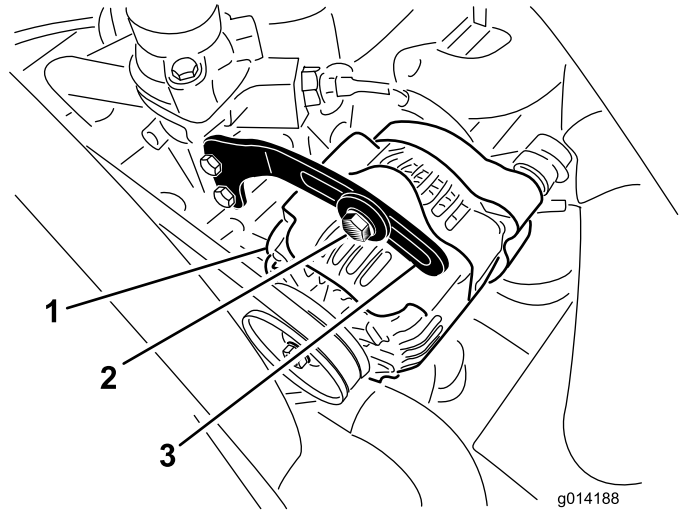

Figure 48
2. Check the tension of the alternator belt by depressing it (Figure 48) midway between the alternator and the crankshaft pulleys with 10 kg (22 lb) of force.
3. Loosen the bolt securing the brace to the alternator (Figure 48), and the alternator pivot bolt.